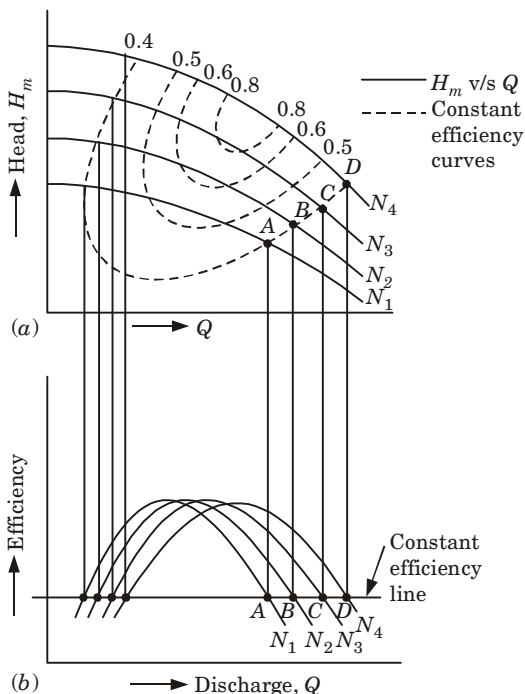

Fig. 5.19.3.
2. Fig. 5.19.3(a) shows the head versus discharge curves for different speeds.
3. The efficiency versus discharge curves for the different speeds is shown in Fig. 5.19.3(b).
4. By combining these curves (H - Q curves and η - Q curves), constant efficiency curves are obtained as shown in Fig. 5.19.3(a).